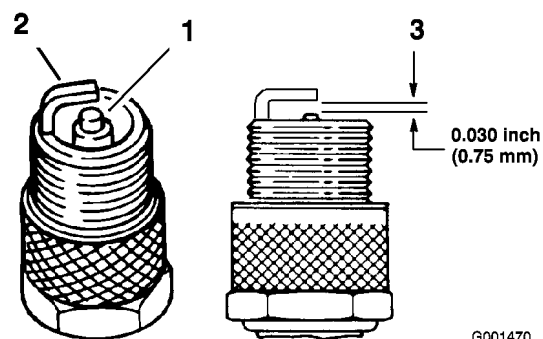

Figure 36
1. Look at the center of the spark plugs (Figure 36). If you see light brown or gray on the insulator, the engine is operating properly. A black coating on the insulator usually means that the air cleaner is dirty.
3. Check the gap between the center and side electrodes (Figure 36). Bend the side electrode (Figure 36) if the gap is not correct.
3. Connect the wires to the spark plugs (Figure 36).